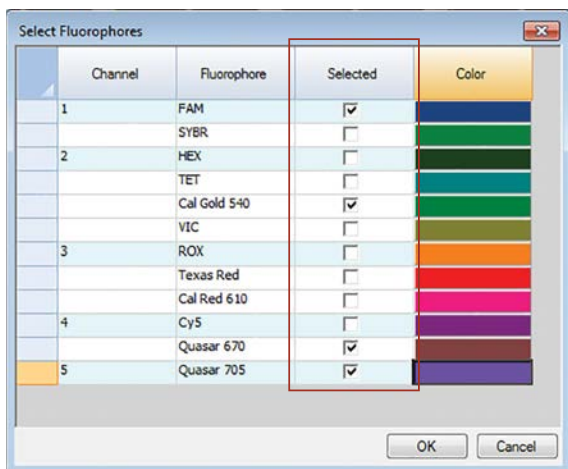

Figure 3. The Select Fluorophores screen.
3. Highlight all 96 wells of the plate, and click “Select Fluorophores...” to bring up the fluorophore options (Figure 3).